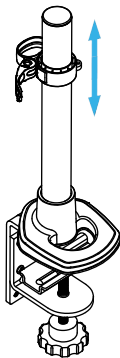

Figure 13
2. Slide the **Cable Management Clip** along the **Pole** to the desired height. (Figure 13)